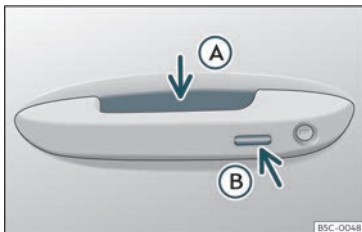

Fig. 77 Door handle: sensor surfaces
>>> Fig. 77
»» **Fig. 77 A** (arrow) of the handle and the vehicle unlocks.
»» **Fig. 77 B** (arrow) on one of the front door handles. The door that is used must be closed.
- Touch (*once*) the sensor surface»» **Fig. 77 B** (arrow) on one of the front door handles. The vehicle locks with the "Safe" security system»» page 100 . The door that is used must be closed.
- Touch (*twice*) the sensor surface»» **Fig. 77 B** (arrow) of one of the front door handles to lock the vehicle without activating the "Safelock" security system»» page 100 .
- Push the central locking button  on the remote control and touch the locking sensor surface of the driver door handle >>> **Fig. 77**  within the following 5 seconds. Do not grasp the door handle; otherwise the vehicle will not unlock. Deactivation is also possible if the vehicle is locked through the driver's door lock.
To close all the electric windows and the sunroof using the **comfort function**, keep a finger for a few seconds on the locking sensor surface >>> **Fig. 77**  (arrow) of the door handle until the windows and roof have closed.
The sensor surfaces on the door handles could engage if hit with a water jet or high pressure steam if there is a valid vehicle key in the proximity. If at least one of the electric windows is open and the sensor surface >>> **Fig. 77**  (arrow) on one of the handles is activated continuously, all windows will close.
- **OR:** touch the sensor surface on the outside of the door handle twice >>> Fig. 77 .